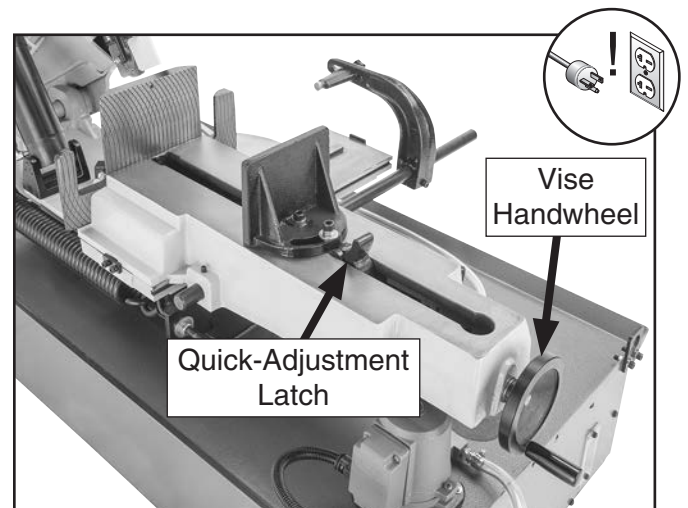

Figure 25. Location of vise handwheel and quick-adjustment latch.
2. Rotate vise handwheel counterclockwise 1/2-turn to relieve any pressure on vise jaws (see **Figure 25**).
3. Flip quick-adjustment latch up to disengage it from vise leadscrew (see **Figure 25**).